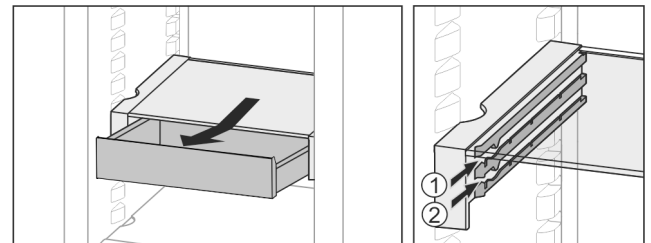

Fig. 28
- ▶ Slide in at any height Fig. 28 (1) or Fig. 28 (2).